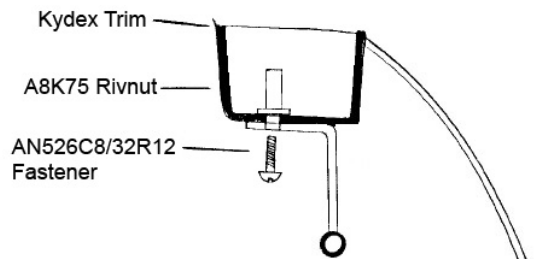

Figure B-10
- The front brackets should mate up to the trim running on top of either front window and to either side of the air conditioning vents, as approximated in Figure B-10.